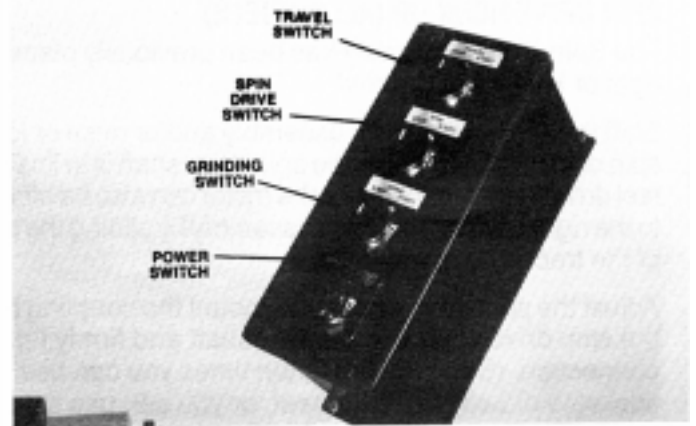

FIG. 59
1. Turn the power switch on. (See FIG. 59)